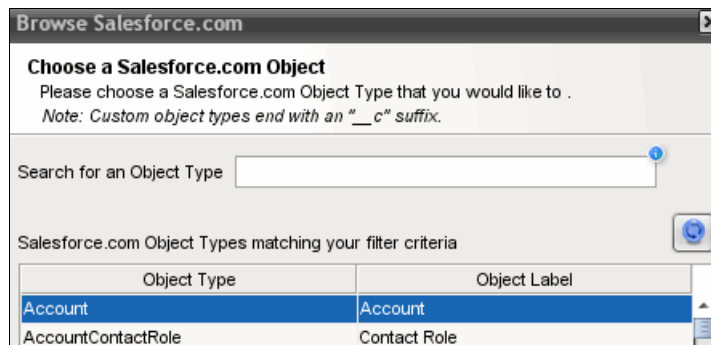

Figure 10-93 Browse Salesforce.com objects
- a. Click **Browse**. Select the Account object, as shown in Figure 10-93, and click **OK**.